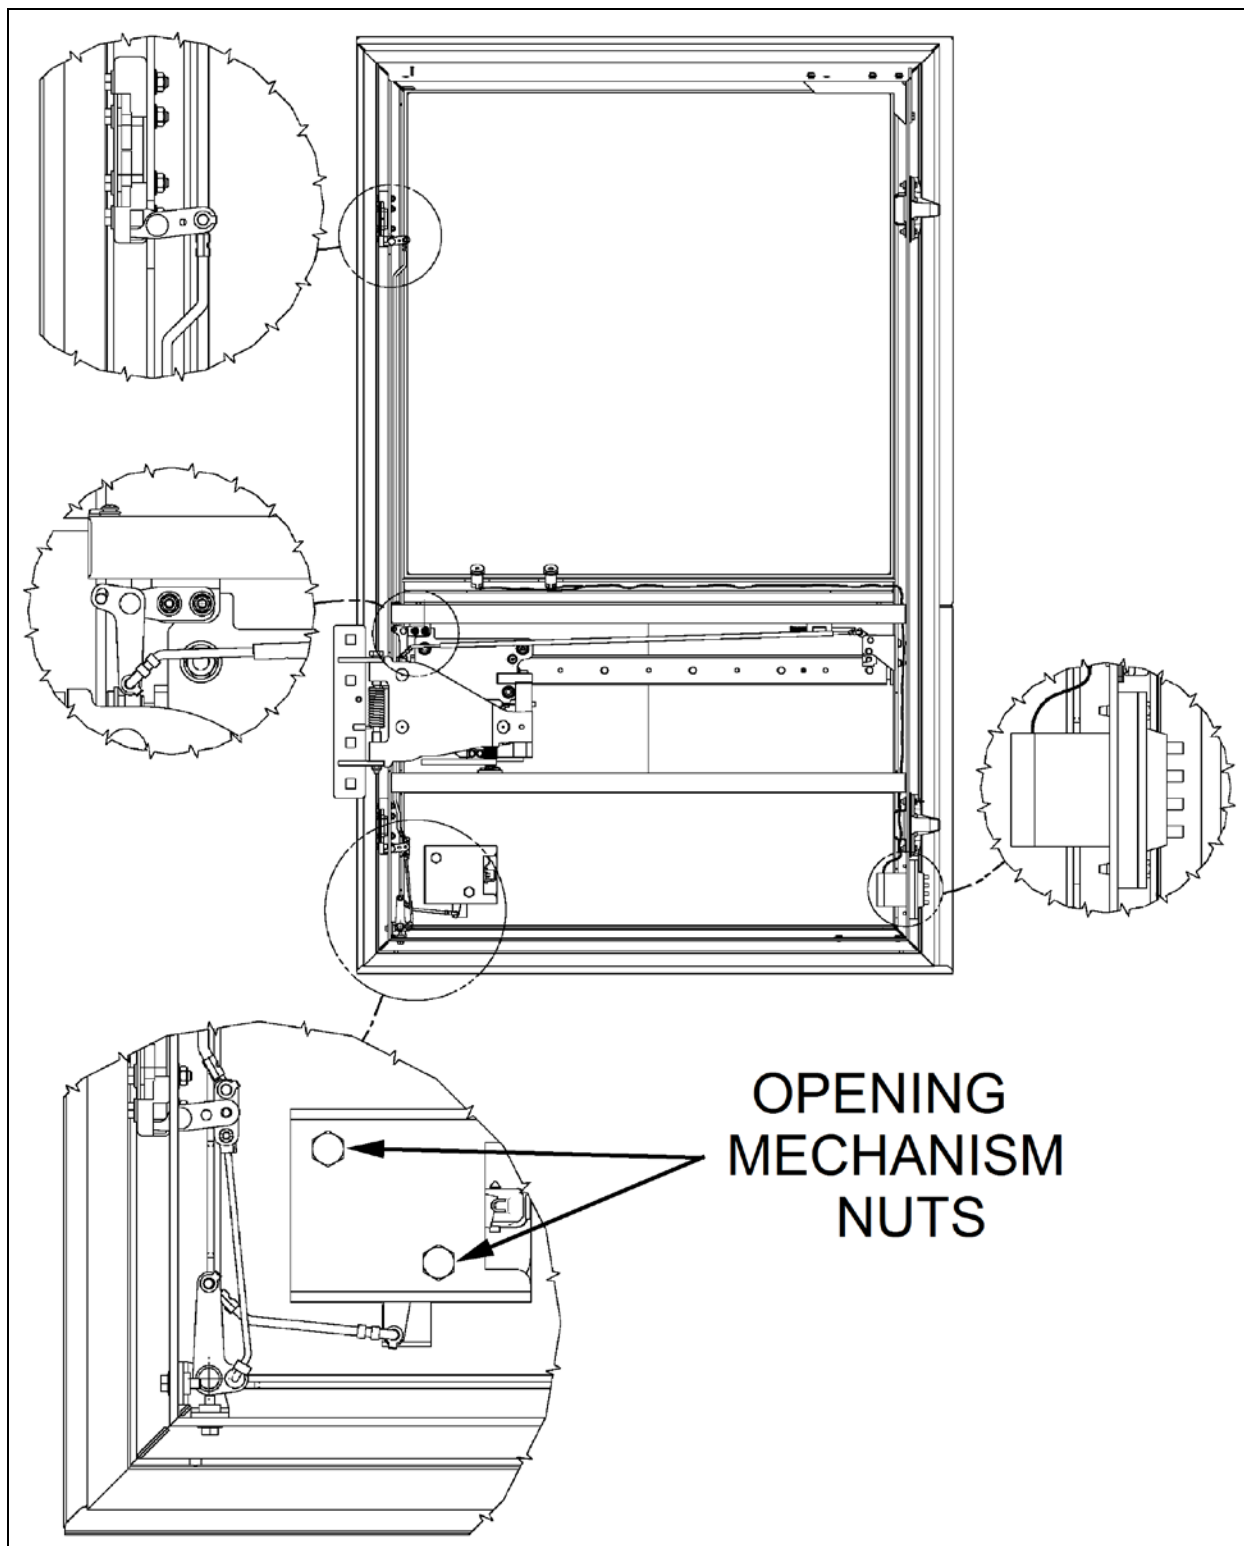

FIGURE 64: WCL SLIDING DOOR OPENING MECHANISM
2. Using a rubber mallet, adjust the lower part of pantograph arm in order to get 4 ± 1 mm between lateral panel and engine door (Refer to figures 64 and 66).